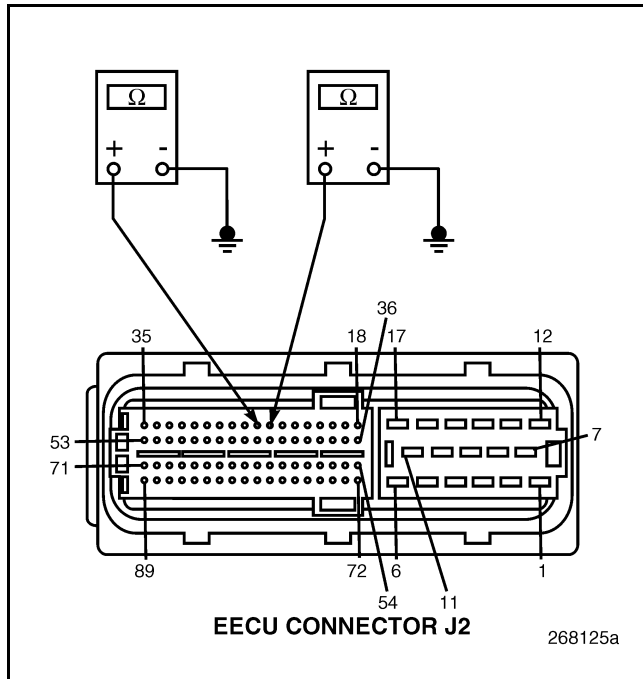

Figure 834
4. Check for continuity between EECU harness connector J2, pins 25 and 26 and a good ground (see Figure 834).